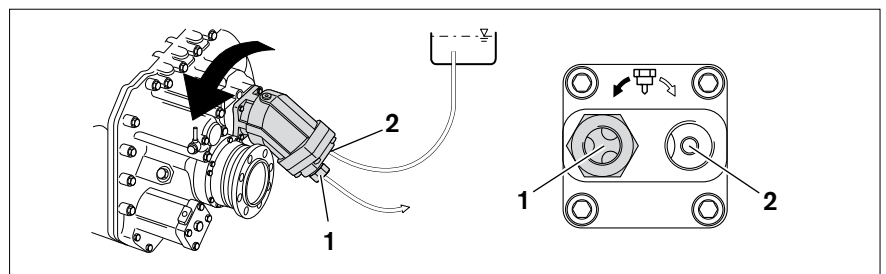

Fig. 11: Pressure connection after conversion – for counter-clockwise rotation of the power take-off (= pump rotates clockwise)
- To change the direction of rotation of the axial piston unit, you must convert the pressure connection (1) from the right port to the left port, see Fig. 11 (for tightening torques, see Table 7).